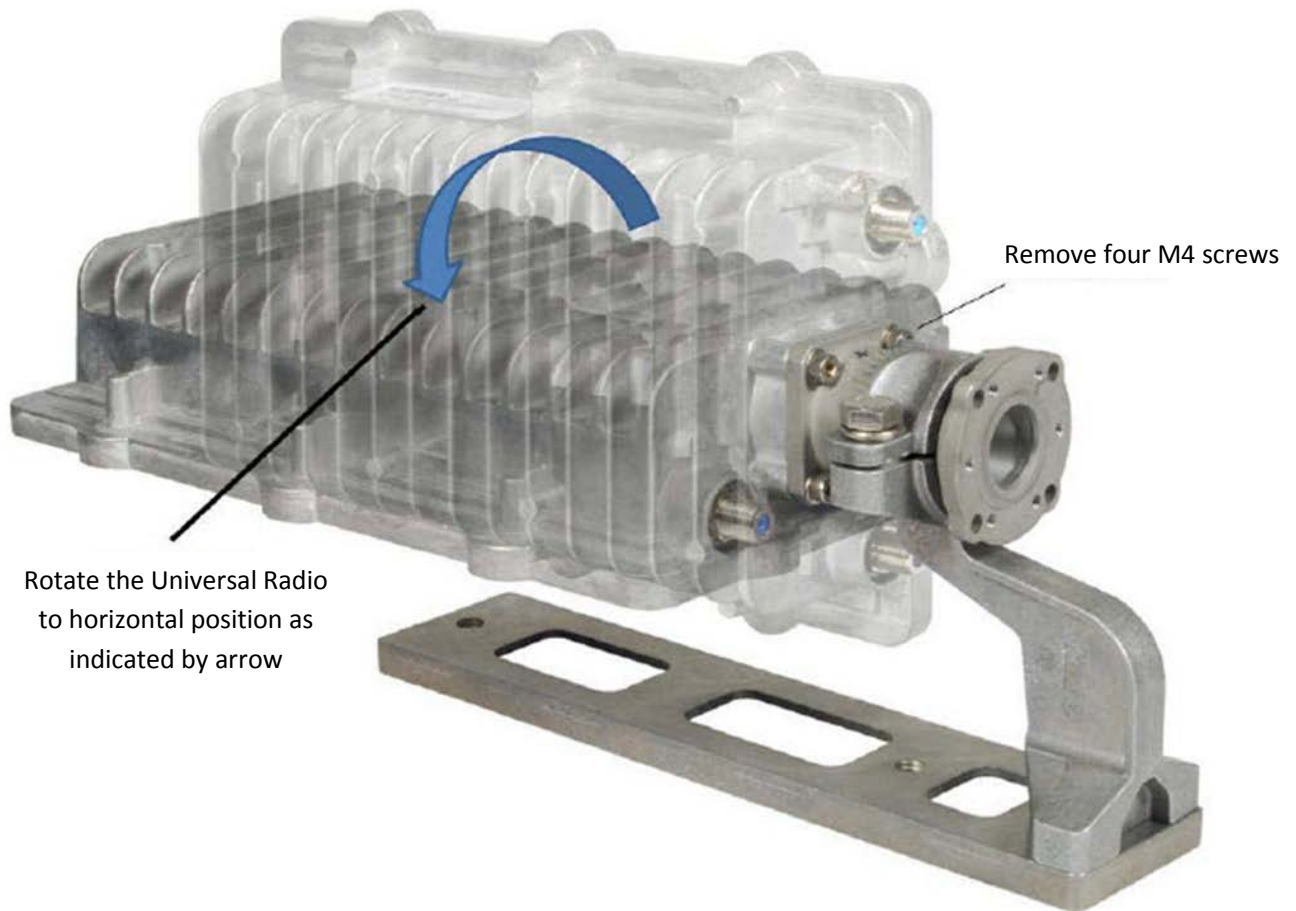

Figure 5: Rotating the radio to horizontal polarization
2. Rotate the Universal Radio so that it is horizontal to the mounting bracket as shown in Figure 5.